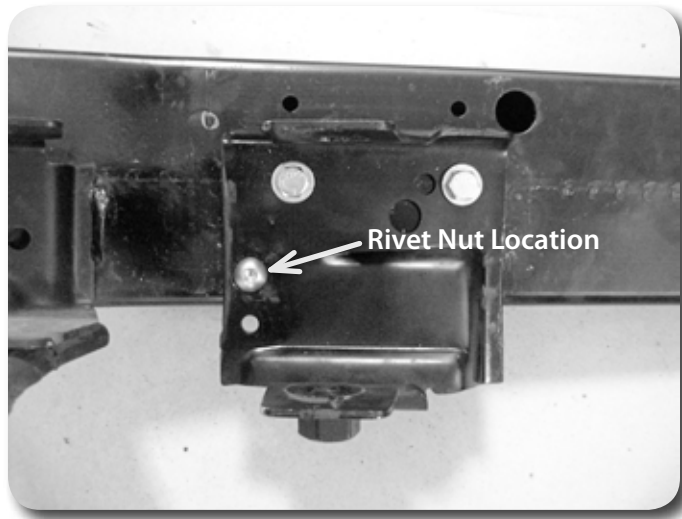

Figure 16
35. Line up the bracket with the newly drilled holes to locate the 3rd mounting hole. Make a mark and drill a 17/32 hole at the mark. **Figure 16**